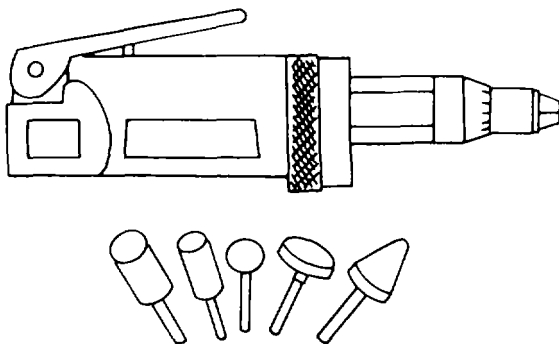

Figure 5-16. Pneumatic Grinder
(4) Always hold the drill at right angles to the work regardless of the position or curvatures. Tilting the drill at any time may cause elongation of the hole.
a. Types. A typical pneumatic grinder is shown in figure 5-16. The grinders are rated by no-load speeds, which typically result in terms of light-, medium-, and heavy-duty loads being used to describe the grinder. The grinding stones come in numerous shapes and give versatility to the grinder.